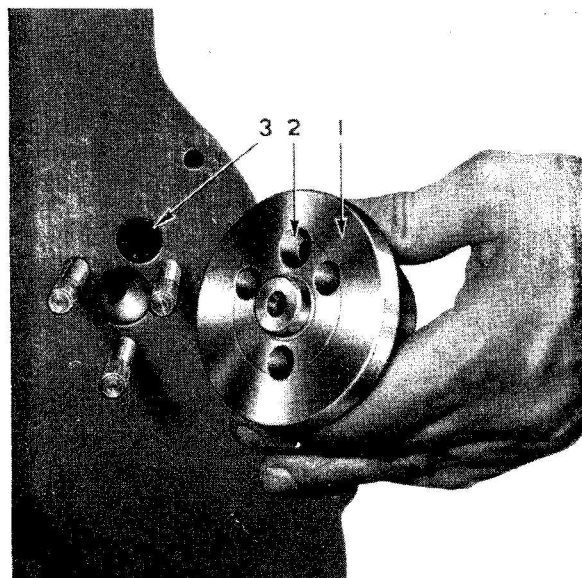

Fig. 4 1. IDLER GEAR HUB
3. Remove the idler gear from the hub which can now be withdrawn from the timing case (Fig. 4).